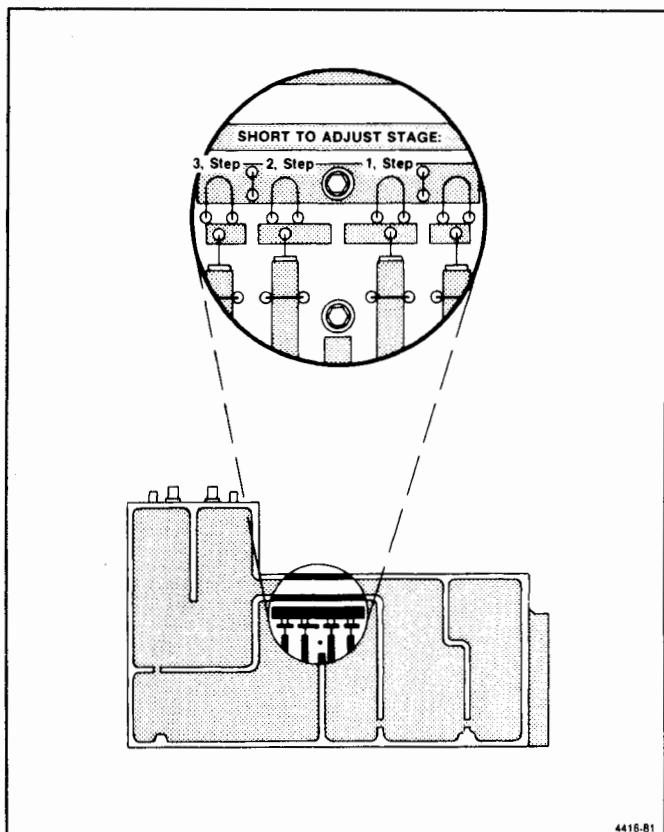

Figure 6-15. 829 MHz Converter filter tune tabs.
f. Adjust the 1/4 wavelength lines in the filter in sequence, starting with the resonator at the 829 1 MHz input (see Figure 6-15). Adjustment is made by shorting the adjacent resonator to ground with a low inductance conductor, such as a broad blade screwdriver, then bend the loop or tab of the respective stub with a non-metallic tuning tool to change the series capacitance of the resonator.